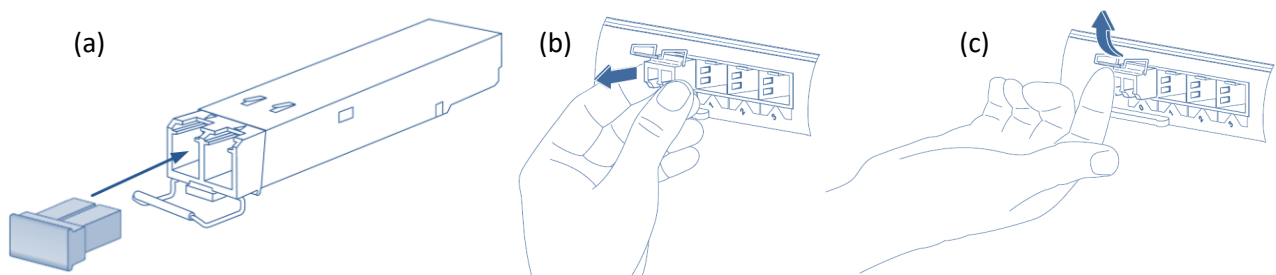

Figure 8 – Removing the SFP+ Module
3. Open the bale clasp on the SFP+ module with your index finger, or a small flat-blade screwdriver, in a downward direction, as shown in Figure 8 (a).
4. Grasp the module between your thumb and index finger and carefully remove it from the port, as shown in Figure 8 (b).
5. Insert the clean dust covers into the module, as shown in Figure 8 (c).